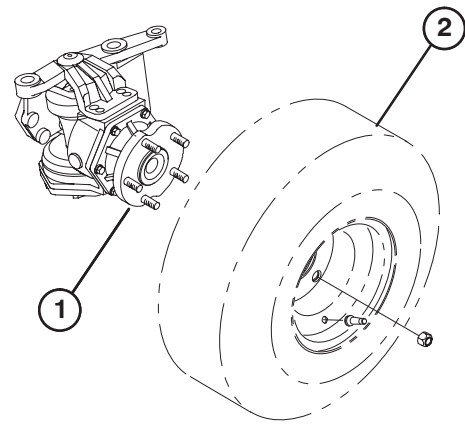

Figure 6
5. Mount wheels to axle hubs with wheel nuts (5 each) (Fig. 6). Torque wheel nuts to 45–50 ft–lbs.